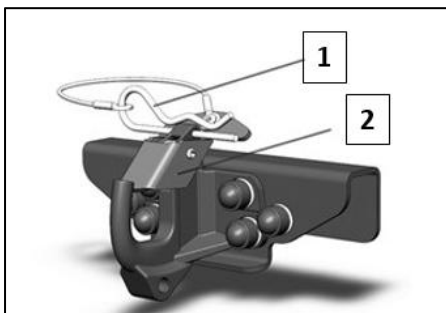

Fig. 29
- 1. Remove the fixed cotter pin (Pose 1, Figure 29).**
- 3. Press the earring and start it with the fuse (posture 2, Figure 29).**